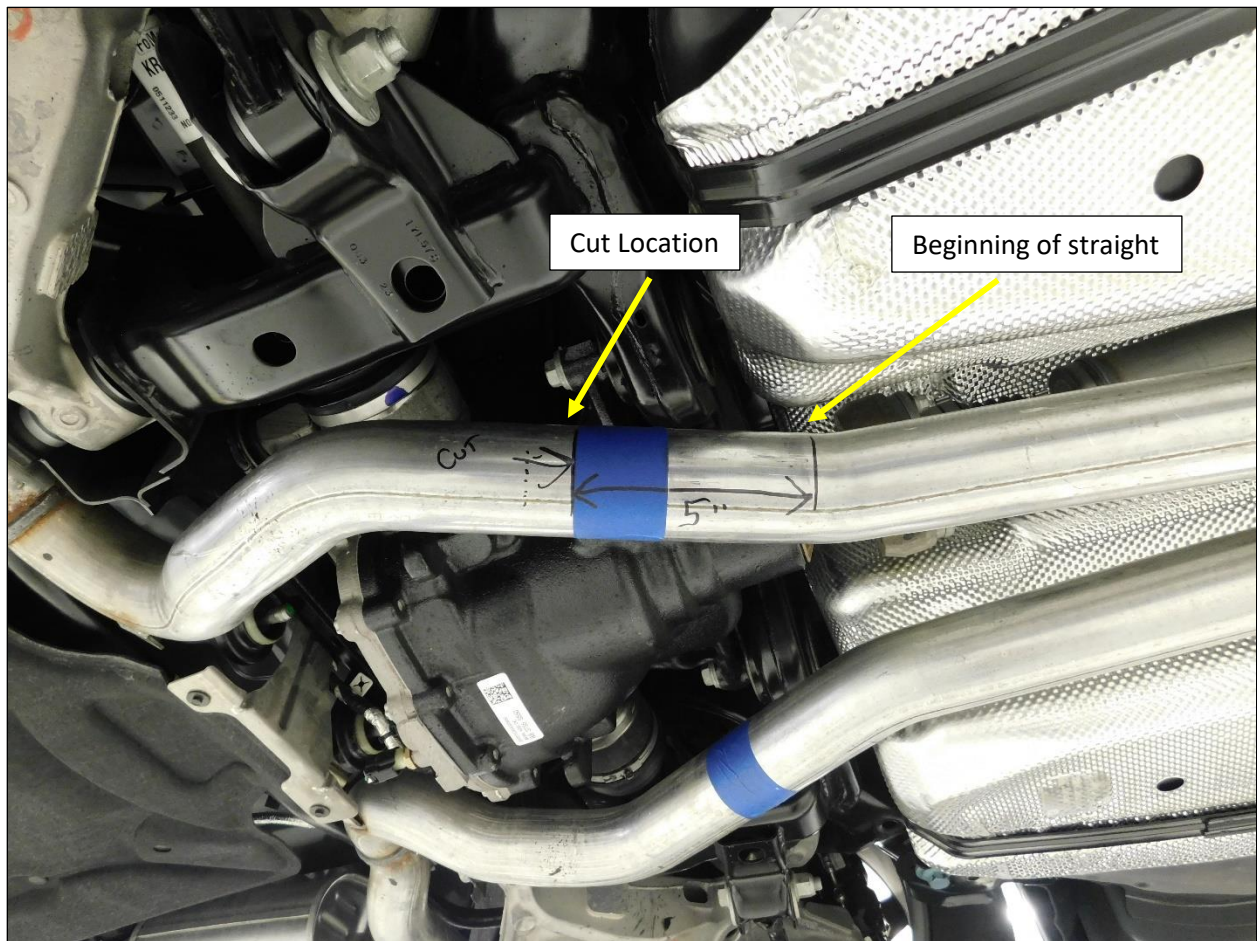

Figure 3
4. Mark the exhaust pipe between the center resonator and the muffler, as shown in **Fig. 3**.
- Use a reciprocating saw or cut off wheel and cut the exhaust at the edge of the tape, as shown in **Fig. 3**.